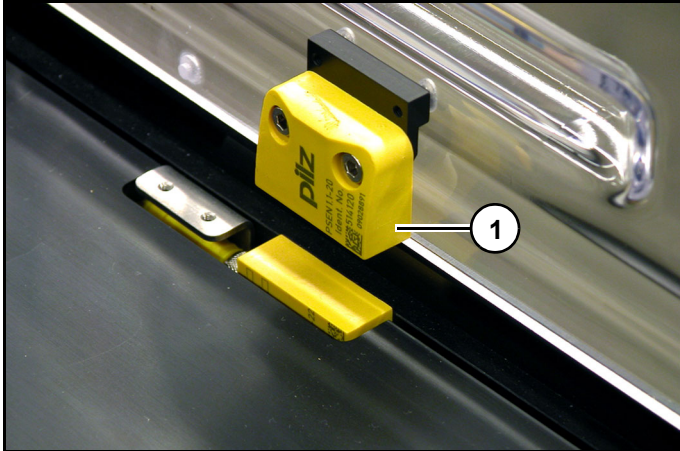

Figure 5
Guard door interlock switch (1) (*Figure 5*) is mounted on any guard door that can be opened without use of a tool.